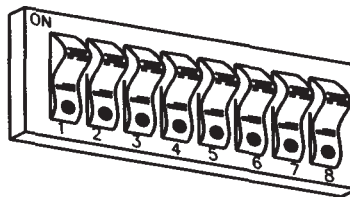

Figure 6-1.
- a. Locate the SCSI ID and operation mode switch (see Figure 6-1) on the rear panel of the disk drive.